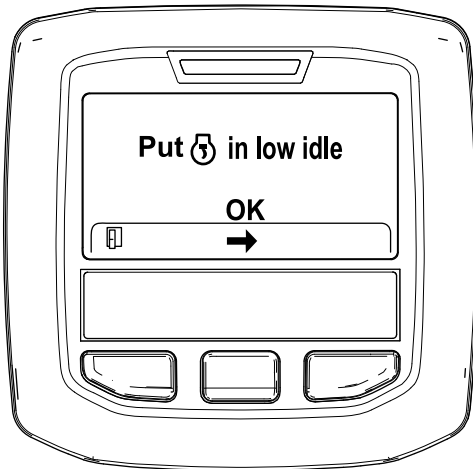

Figure 46
6. Move the throttle control to LOW IDLE and press the center button (Figure 46).